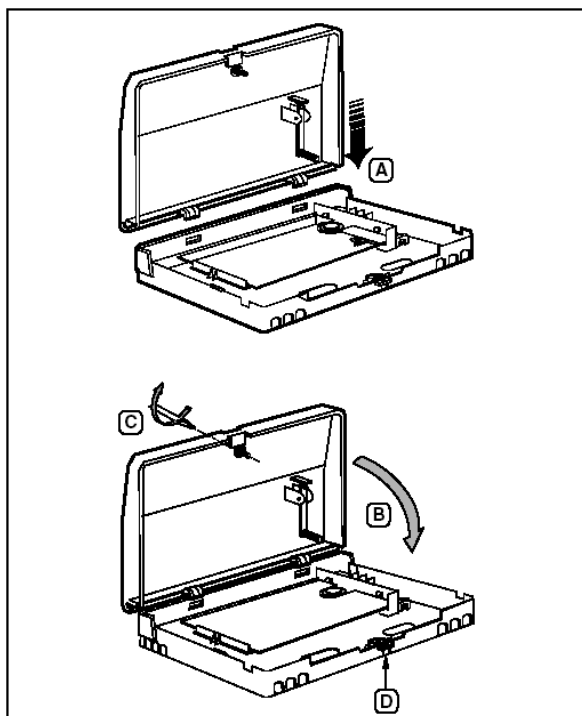

Fig. 7 : Close and seal the housing
2.8 Close and seal the housing (fig. 7)